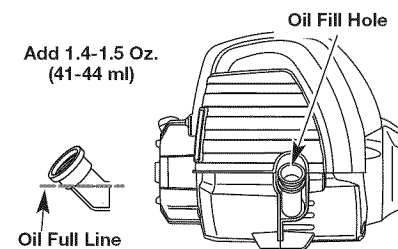

Fig. 30
5. Check the oil level. Oil should be just to the bottom of the threads of the oil fill hole. (Fig. 30).
6. If the level is low, add a small amount of oil to the oil fill hole and recheck (Fig. 30). Repeat this procedure until the oil level reaches the bottom of the threads in the oil fill hole.